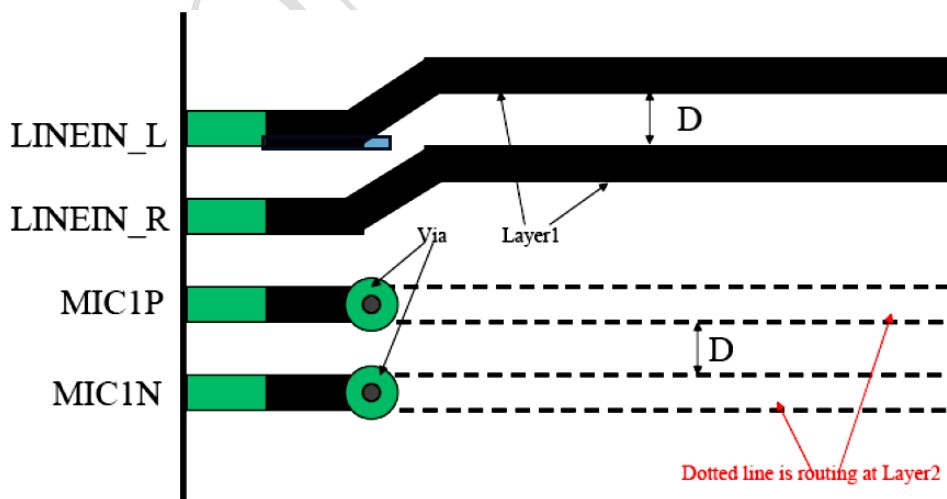

Figure 5-5. The special routing for MIC input signal ($D \leq 10$ mils)
- ii. The **MIC1P/MIC1N** and **MIC2P/MIC2N** input signals are more sensitive than the other signals. These two signals may route to the other layer if possible, and we can see that in Figure 5-5. In Figure 5-5, **LINE_IN_R/LINE_IN_L** those input signals is routing on Layer-1. But **MIC1P/MIC1N** and **MIC2P/MIC2N** input are routing on different Layer (Ex. Layer-2) between codec and phone jack input.